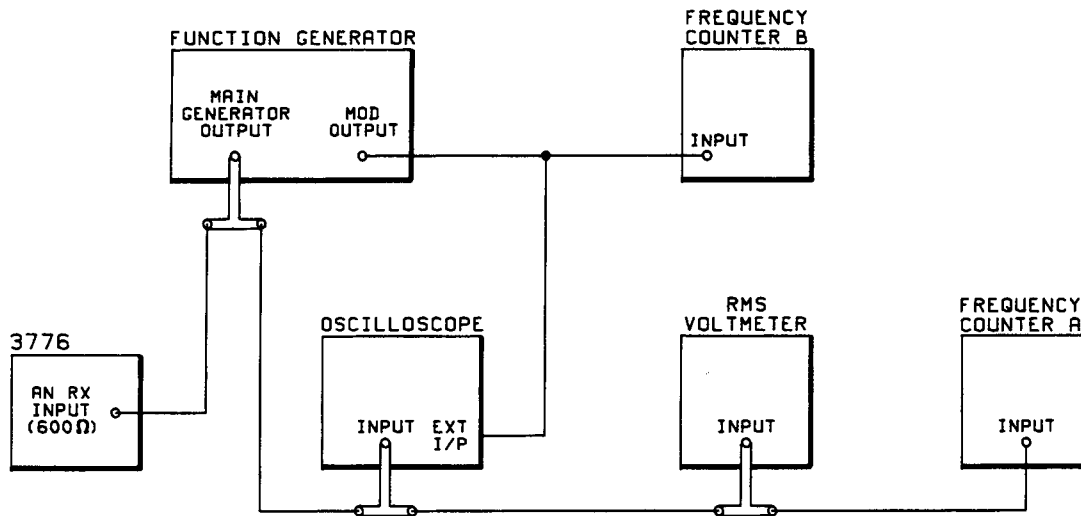

Figure 4-36 Phase Jitter Amplitude to Phase Conversion Test Set-up
29. Connect the equipment as shown in Figure 4-36.